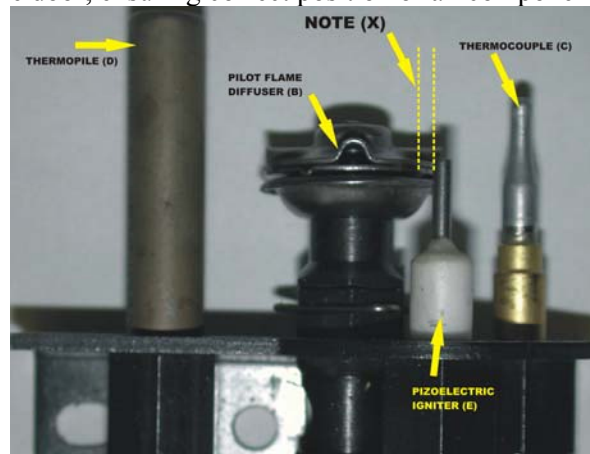

FIGURE 27: PILOT VALVE
- STEP 13** Refer to FIGURE 27, Note (X). The piezoelectric igniter cannot be installed incorrectly unless it is damaged. The piezoelectric igniter should be in a parallel plane to the pilot flame diffuser body. Each time the igniter button is pressed, a blue arc should occur from the piezoelectric igniter to the pilot flame diffuser body. Replace the burners, the ember tray, the logs, the embers, and the door, ensuring correct position of all components.